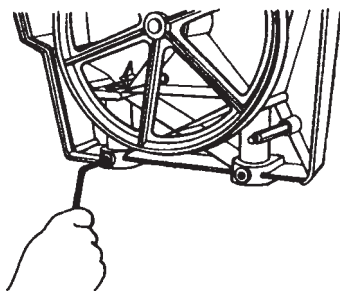
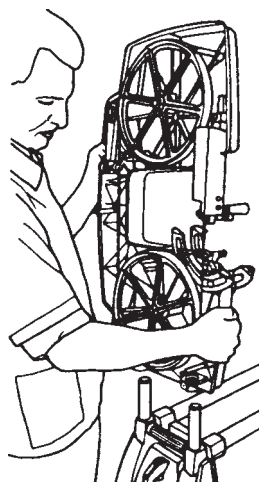

Fig. 4
Fig. 5
3. Back out the setscrews (5) in the base of the Bandsaw, as seen in Fig. 4. Place the Bandsaw on the tubes, as seen in Fig. 5. Don't tighten the setscrews yet.